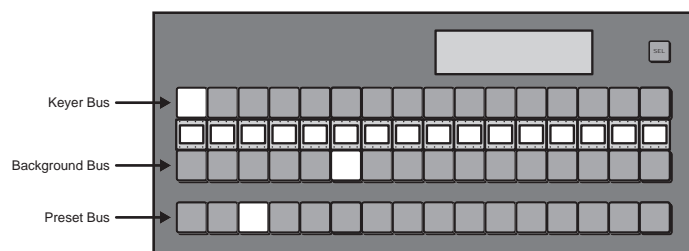

Figure 5.26 Video Sources Selected — After Transition
7. After the transition is complete, notice that the video sources you selected on the **Background** and **Preset** buses have swapped, or flip-flopped (**Figure 5.26**). What was on the **Preset** bus is now on the **Program** bus.